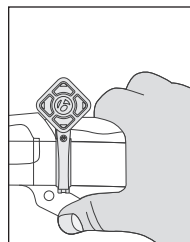

FIGURE 1.5
- With the controls (Figure 1.5)